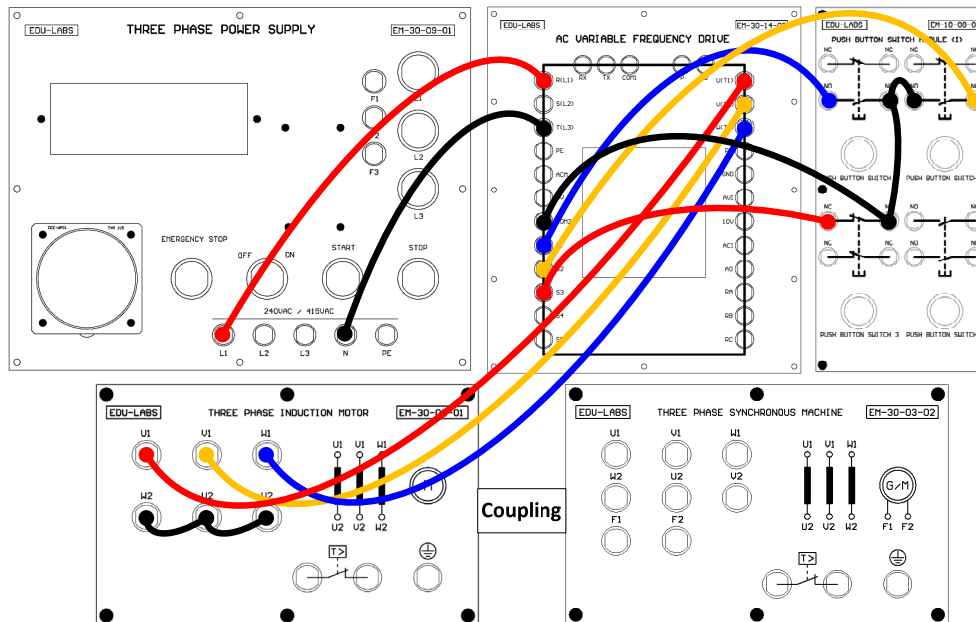

Fig. 7: AC Variable Frequency Drive Wiring Connection (FORWARD, REVERSE & STOP)
2. Connect the Three Phase Power Supply Module EM-10-09-01 U, V and W to the Three Phase Induction Motor U1, V1, and W1 and make sure that the connection is STAR connection in U2, V2, and W2 as in Fig.7.
3. Construct the circuit by using Push Button Switch Module (I) to AC Variable Frequency Drive according to the schematic diagram Three-wire Control Model 1.